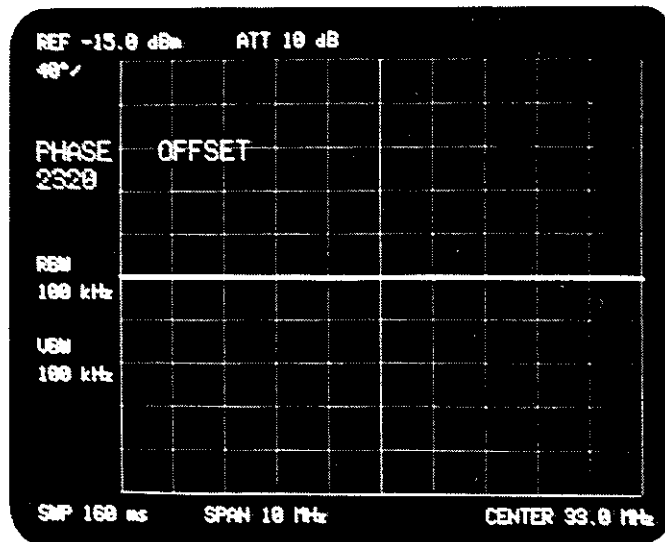

Fig. 7-5 Positioning the Phase Response Trace at the Center of the Vertical Axis
- (7) Next press the PHASE OFFSET key to enable entry of phase offset. Position the phase response trace at the center of the vertical axis on the screen with the DATA knob or the DATA step keys. (See Figure 7-5.)